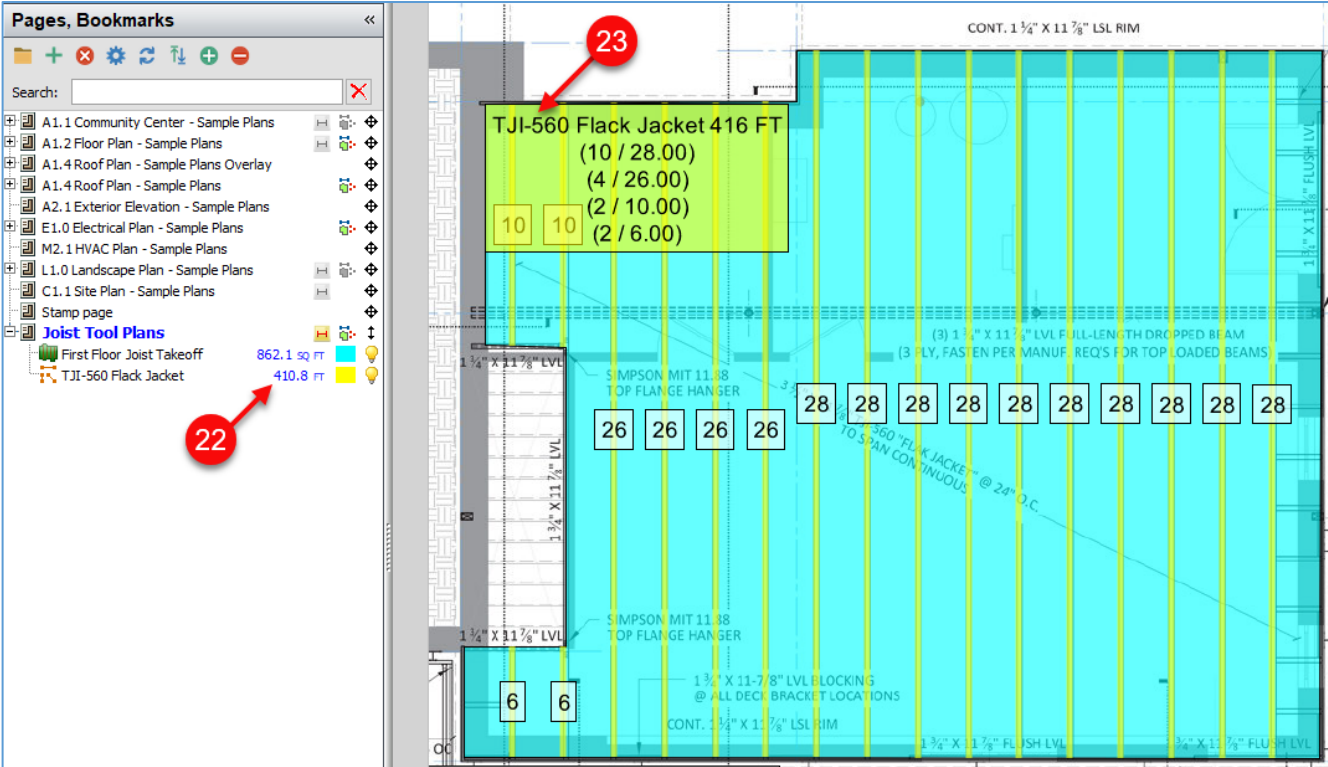

Figure 36-D
- 24. If you need to double one of the joists, click on a joist to select it so that it is highlighted in red (Fig. 36-E).